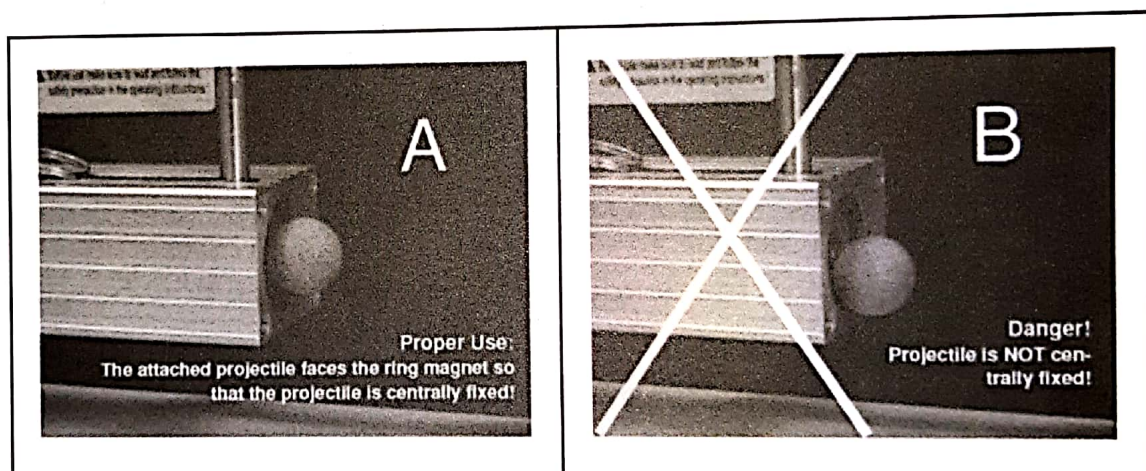

Figure 8.3: Proper and improper affixing of the steel ball to the magnet*.
1. With the tension lever at its rightmost position (*i.e.*, with the spring uncompressed), affix the steel ball to the holding magnet as in Figure 8.3 A below.